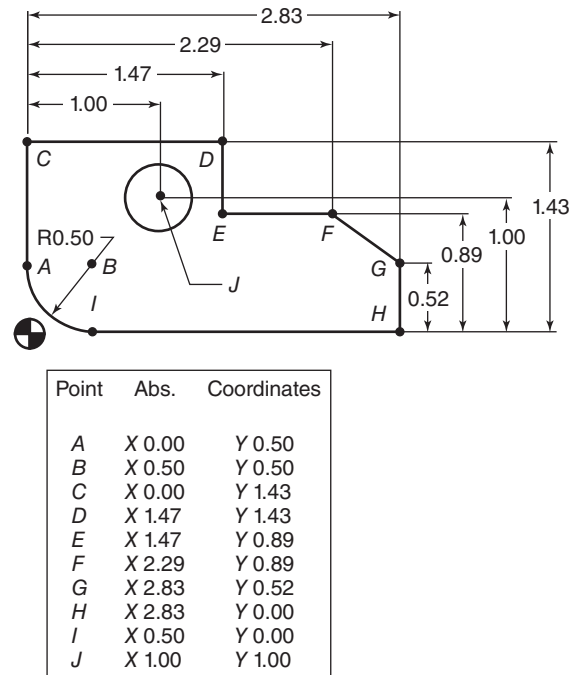

Figure 17-64 Answer to Problems 3 and 5.
3. See Fig. 17-64.
5. See Fig. 17-64.